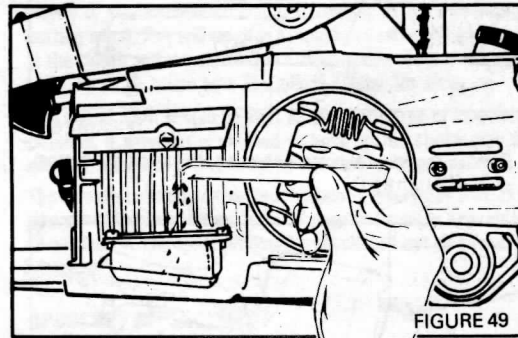

FIGURE 49
5. Remove the chain Brake. Clean all dirt, grass, wood chips, etc. from the cooling fins and cylinder jacket. Be sure guide bar oiler hole is clear of any debris. (Figure 49).